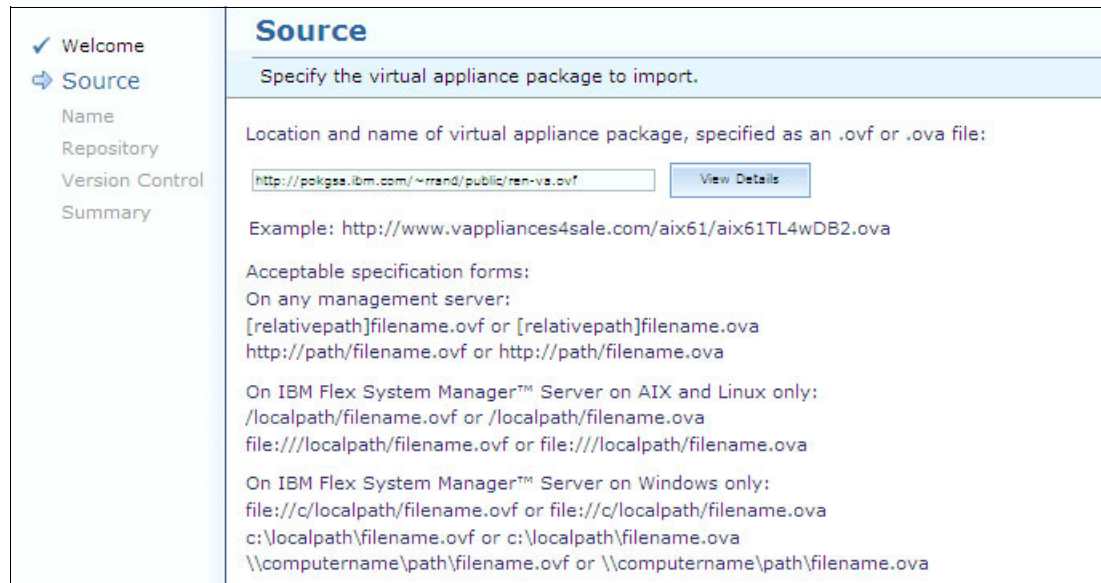

Figure 9-115 Import appliance source path file
4. Enter the path to import your appliance. In this example, import the appliance from an http server as shown in Figure 9-115. Click **Next**.